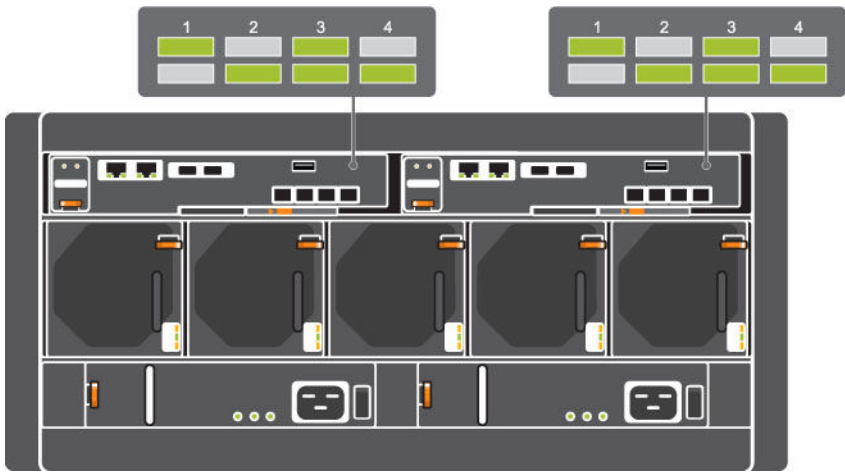

Figure 71. Storage Controller Diagnostic LEDs
5. Wait until the green diagnostic LEDs on the back of each storage controller match the pattern shown in Figure 71. Storage Controller Diagnostic LEDs. This pattern indicates that a storage controller has started up successfully.